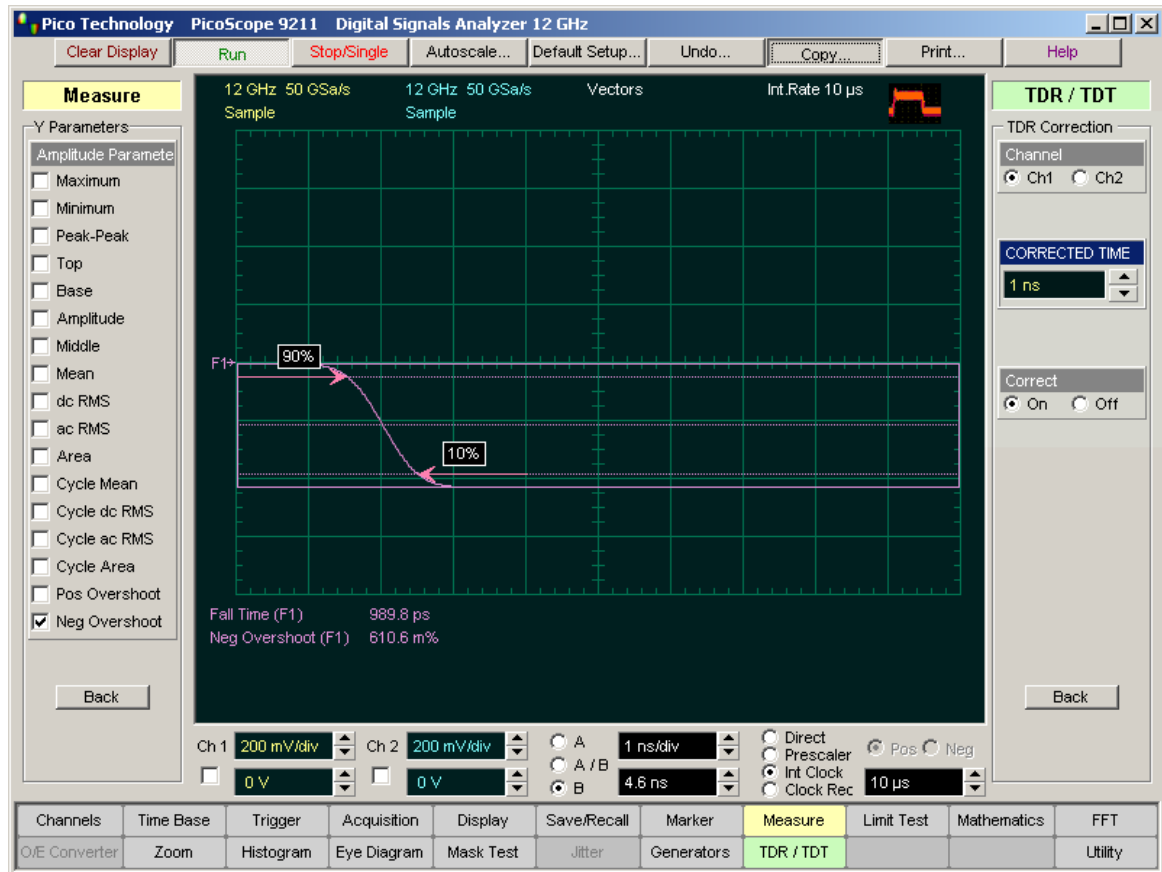

Figure 1
13. From the X Parameters... menu select Fall Time, and from the Y Parameters... menu select Neg Overshoot. See Figure 1.